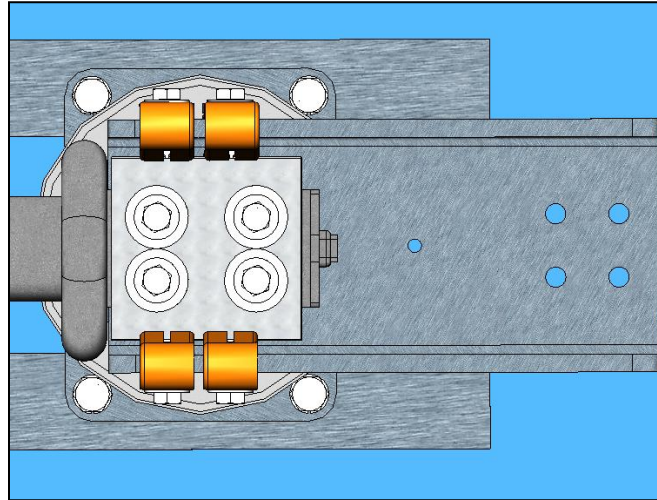
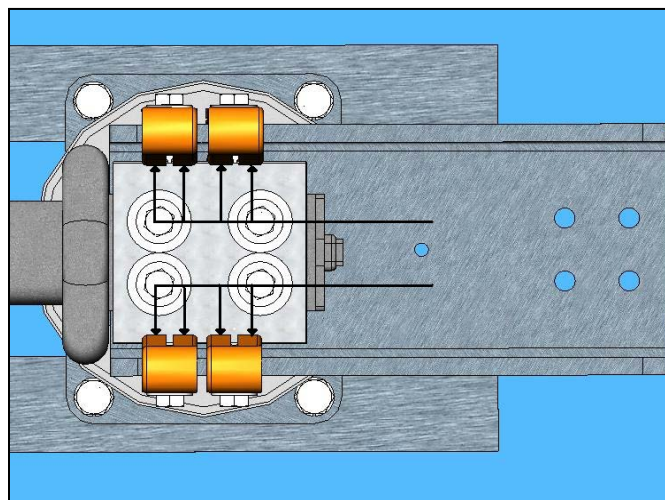

Figure 4. Contact blade centered among contact fingers.
Figure 5. Evenly Distributed Contact at All Points, On Both Sides
- 1.6.4. Mount the jaw contact assembly to the insulator and, for the moment, leave the bolts loose. Close the switch blade into the contacts, checking for alignment as shown in **Figure 4** and **Figure 5**. Usually bolt hole tolerances will be sufficient to align the contacts properly. However, the jackscrews that support the jaw insulator stack can also be used to tilt the insulator as required
- 2.1.1. The jaw contact leaves (fingers) must be centered on the silver of the blade tip as shown in **Figure 4**. If necessary, use the jack screws that support the jaw insulator to tilt the insulator fore or aft to align these parts.
- 2.1.2. All contact leaves (fingers) must be in contact with the silver of the blade tip as shown in **Figure 5**. If necessary, shift the jaw against the bolt hole tolerances as required to achieve full contact distribution along the length of the blade tip.